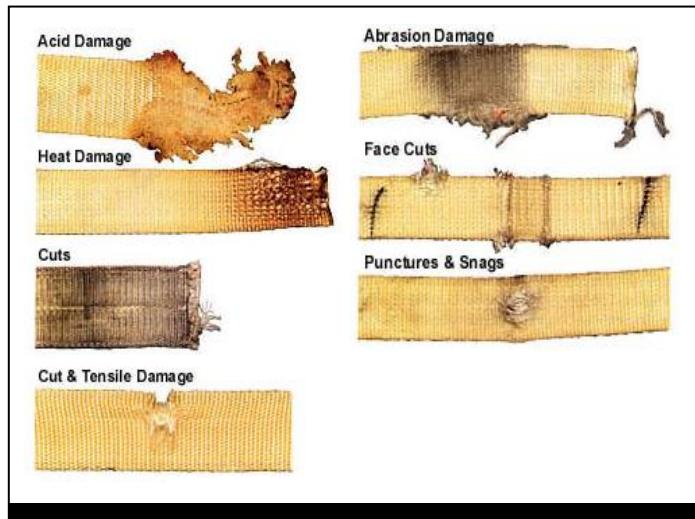

Figure 7: Examples of webbing damage
Inspect the entire working length. Examine the lifeline for signs of damage (see Figure 7). Also examine for other debris.
**8.3 WEBBING DAMAGE** Examples of webbing damage are shown in Figure 7. Inspectors must be trained to identify all varieties of damage, not limited to the examples shown in Figure 7. Remove SRL from service if it displays evidence of an unsafe or defective condition. If the SRL has been exposed to an arc flash, remove from service.